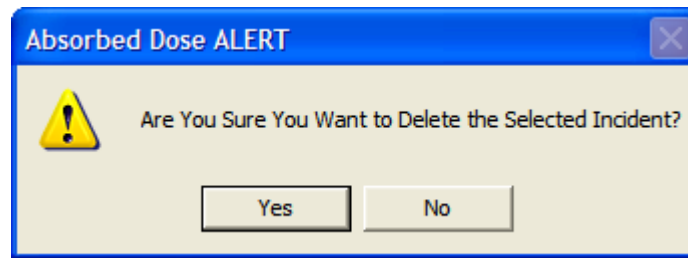

Figure 9-10
- To delete the selected incident, verify that the desired incident is highlighted in the Incident list box and click the **Delete Incident** button. If the selected incident is not the currently active incident, Figure 9-10 will appear.
To delete the currently active incident, select (highlight) a different incident and click the  button. The Incident Setup Screen will re-appear displaying the parameters for the selected incident. Click the  button on the Incident Setup Screen. Figure 9-8 Incident Selection Screen will re-appear. Highlight the desired incident and press the  button. Figure 9-10 will appear.